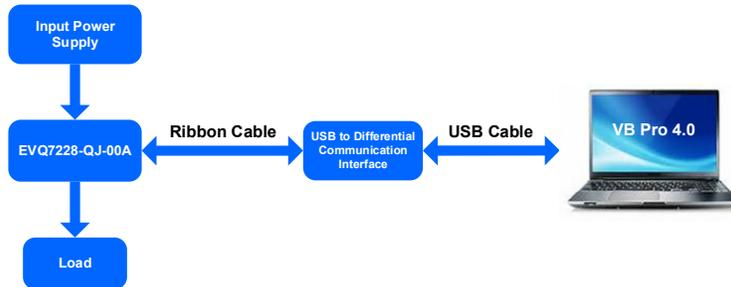

Figure 2: Connection to the UART Interface
- Connect CN2 on the evaluation board the communication interface, then connect the interface to the computer. This allows the device to be configured via Virtual Bench Pro 4.0, which is the configurable graphic user interface (GUI) (see Figure 2). ⁽¹⁾ If this is a user’s first time using the communication interface, contact an MPS FAE to obtain the driver file.